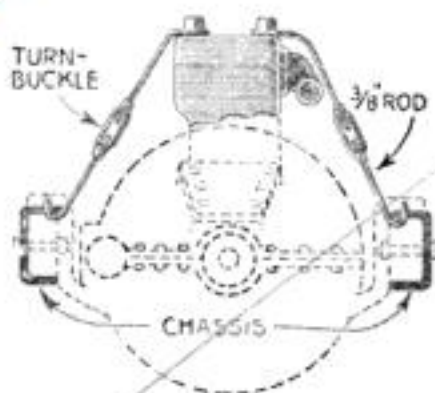

Fig. 2. Turnbuckles used to brace the Ford motor and eliminate some of the vibration
**H** ERE is a method of bracing the Ford motor to cut out some of the vibration. It keeps the cylinder block from wobbling side-wise. The construction is simple enough. Two turnbuckles are used with the ends bent to fit as shown in Fig. 2.